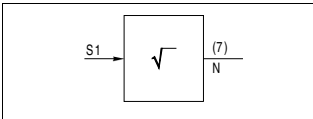
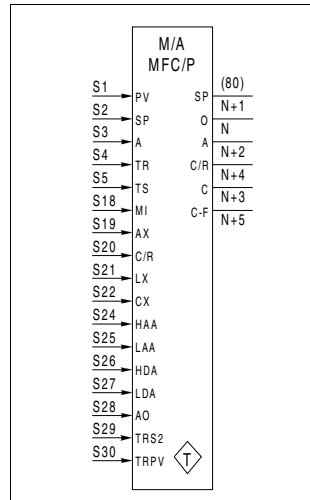

Figure 2. Function Code 7, Square Root
Figure 3. Function Code 80, Station
Function codes are referenced by block addresses (N). Some functions have only one block address (e.g., function code 7, the square root) while other function codes require several consecutive block numbers (e.g., function code 80, the station). **Figure 2** shows the square root function code, and **Figure 3** shows the station function code.